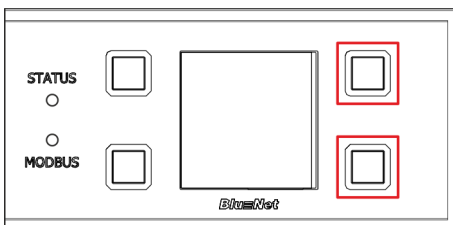

Fig. 79: Display with control buttons
1. ➤ Press and hold the two buttons to the right of the display (Fig. 79/red marking).
4. ➤ Release the two buttons next to the display (Fig. 79/red marking).